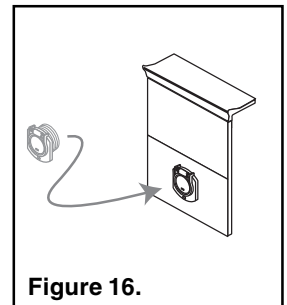

Figure 16.
3. A spring loaded safety cover, (“vac port fitting”), is included with this cleaner (see Figure 16). Install it on the dedicated vacuum line to prevent entrapment and injury. For details please refer to the *Vac Port Instruction sheet* included with your vac port fitting. To install the included vac port fitting: